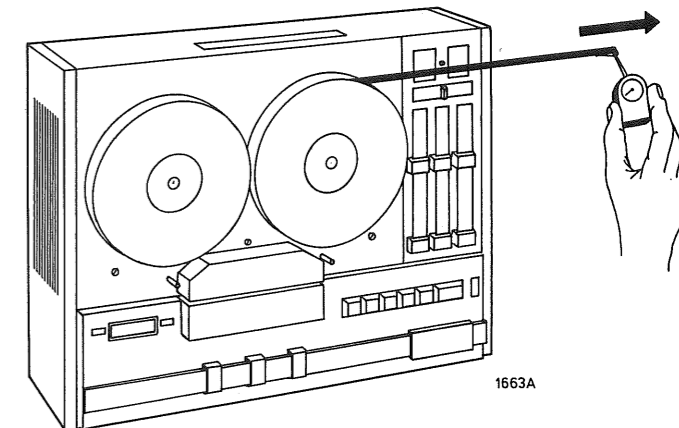

Fig. 15
Adjusting the brake solenoid and the brakes (see Figs. 15, 16 and 29)
- The brake force of the left and right turntable should be 1000 g.cm. This force can be measured by means of a full reel and a spring pressure gauge, as indicated in Fig. 15. The gauge should give the following readings for the various reel diameters:
ELECTRICAL CHECKS AND ADJUSTMENTS (Fig. 15)